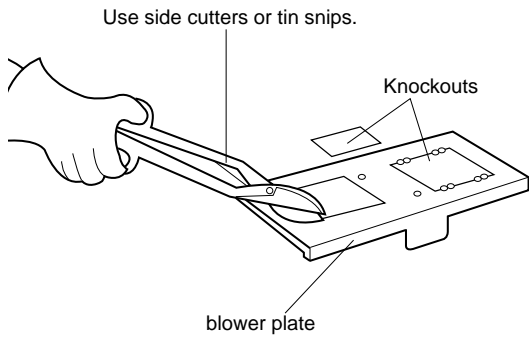

Figure 15
8. Use side cutters or tin snips to cut and remove knockouts from blower plate. Discard knockouts. Be careful not to distort the plate. See Figure 15, page 11.